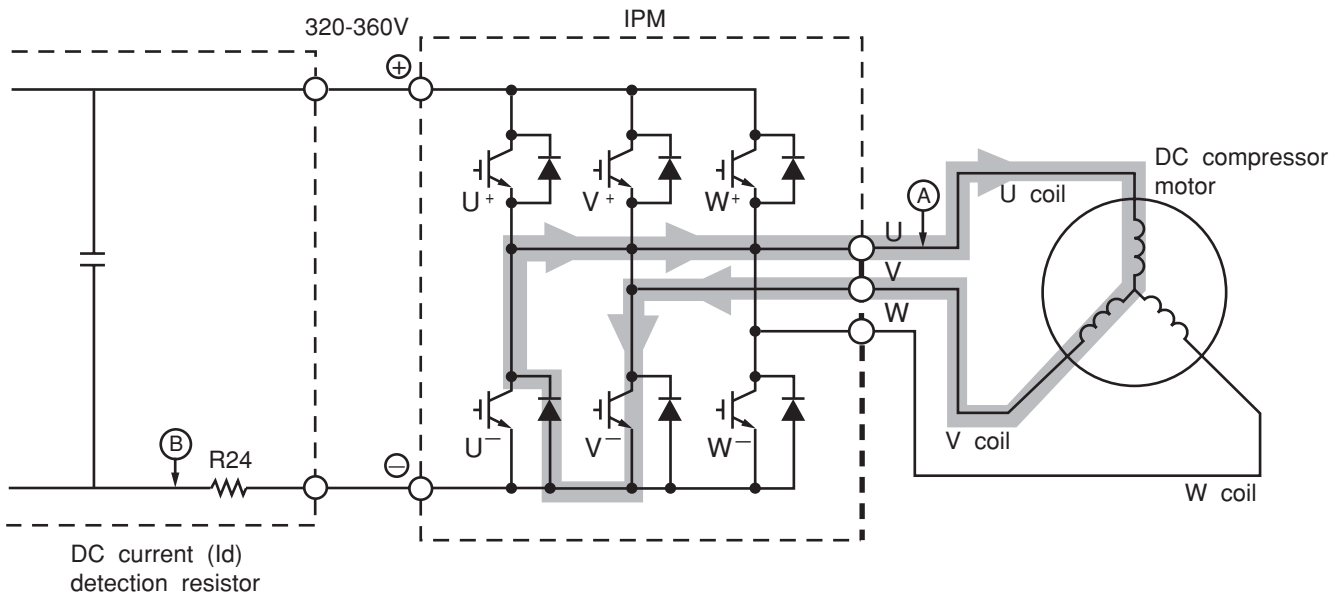

Fig. 4-2 System Power module circuit (U⁺ is OFF, V⁻ is ON)
- Since current flows at point ② only when U⁺ transistor and V⁻ transistor is ON, the current waveform at point ② becomes intermittent waveform as shown in Fig. 4-2. Since current at point ② is approximately proportional to the input current of the air conditioner, input current is controlled by using DC current (I_d) detection resistor.